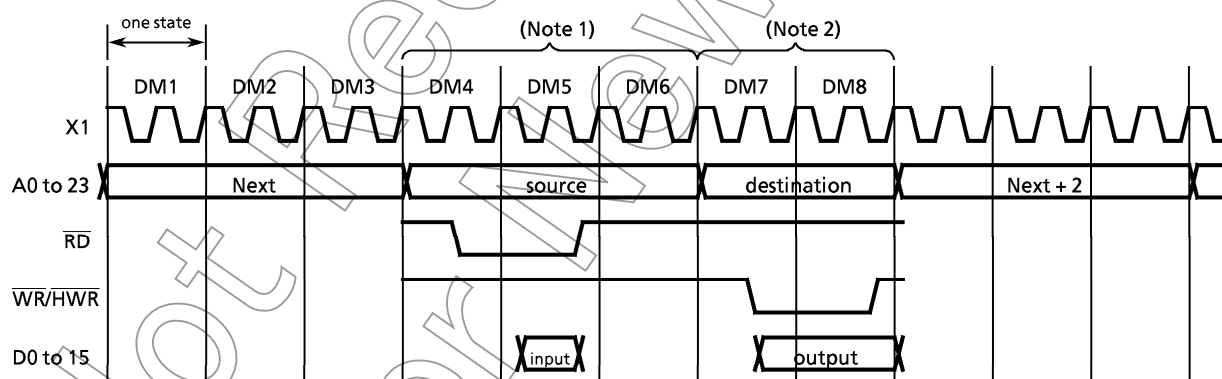

Figure 3.3.2 (1) Micro DMA Cycle Diagram
Figure 3.3.2 (1) shows the micro DMA cycle for 1-word transfer in transfer destination address INC mode (the same apart from counter mode). (The conditions for this cycle are based on a 16-bit bus, 0 waits, and transfer source/transfer destination addresses both even-numbered values.).